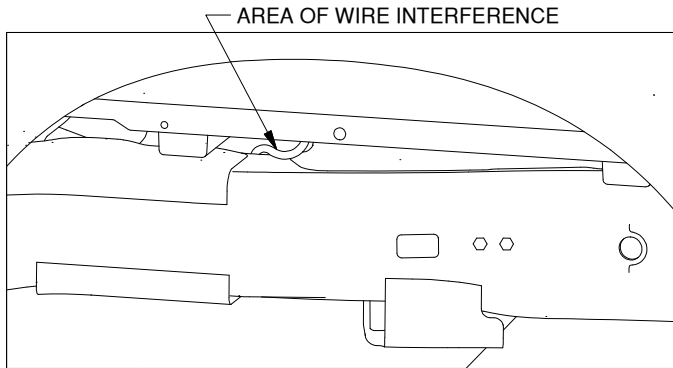

Figure C1: View looking into the driver side wheel well.
1. **Move wiring for handle install.** The handle may come into contact with part of the wiring harness running over the driver side of the frame, see Figure C1. Move the wire from this area of the frame by pulling the wiring down beside the frame in the inside of the truck. In some cases, fasteners may be present that will need to be pulled out of the frame. A wire tie may need to be used to keep the wire down out of the way of the handle. When correctly installed, no moving part of the handle should rub on any wires in your truck.